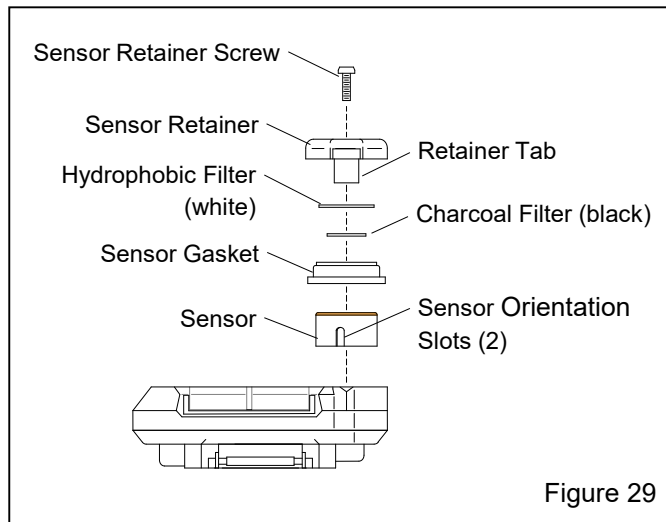
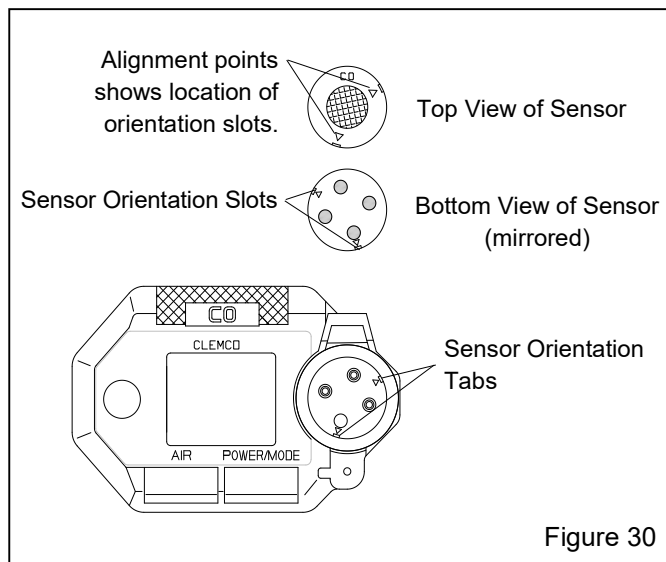

Figure 29
Figure 30
6.2 Replacing the Sensor – Figures 29 and 30
socket one way, as shown in Figure 29. Before removing the sensor, note the orientation of the old sensor alignment points, as shown in Figure 30. The new sensor will insert with the same orientation.
6.2.6 Carefully insert the replacement sensor. Make sure the sensor face with the colored ring is facing up, and that the sensor's orientation slots are aligned correctly with the tabs within the socket, as shown in Figure 30. Do not force the sensor into its socket; if the sensor is correctly aligned, it easily sets into the socket.